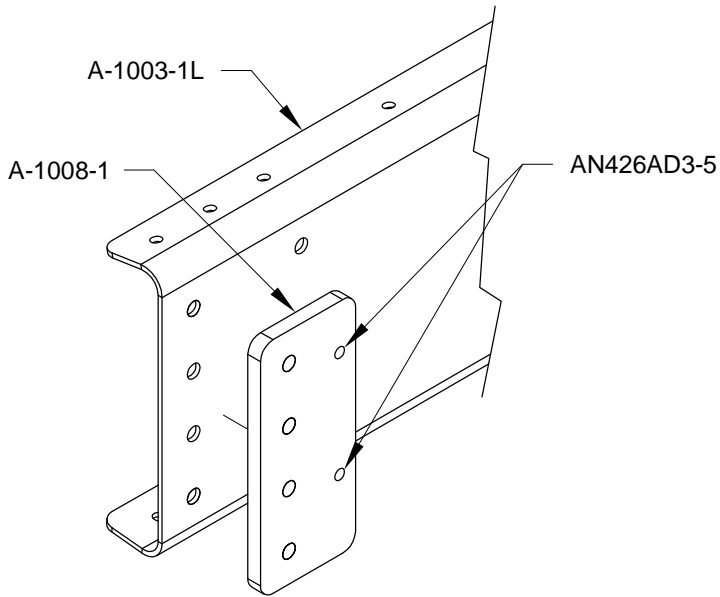

FIGURE 3: ATTACHING THE DOUBLER TO THE SPAR
Step 7: Rivet the A-1008-1 Doubler to the A-1003-1L Spar using the rivets called out in Figure 3.